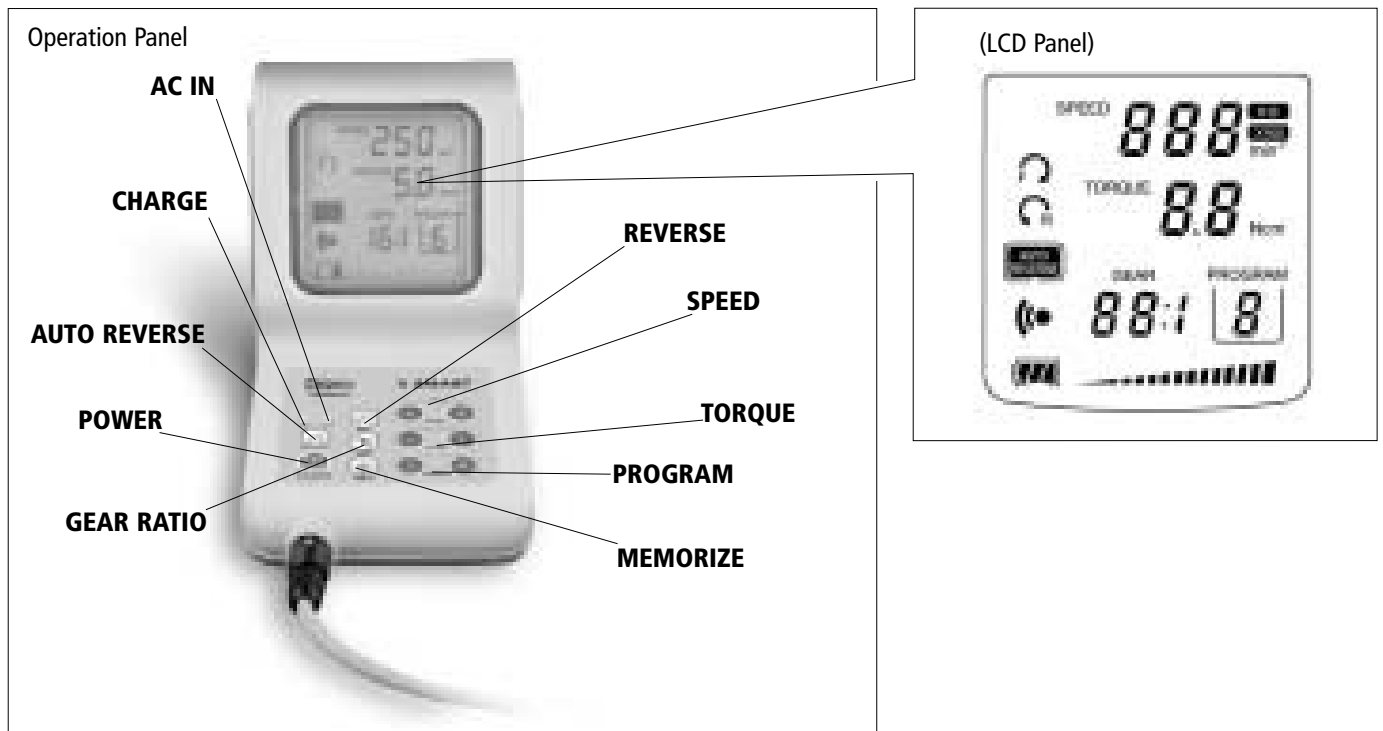

Fig. 2
- See Fig. 2 "Operation Panel and LCD Panel."